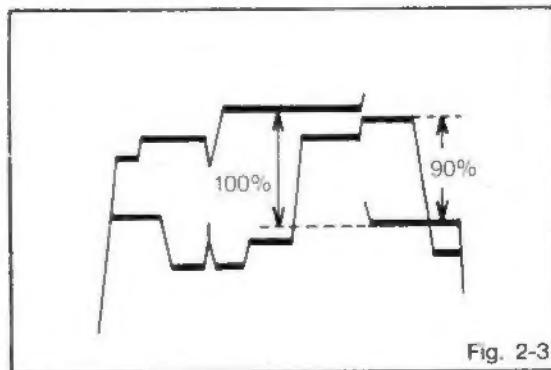

Fig. 2-3
5. Adjust VR102 until the waveform becomes as shown in Fig. 2-3.